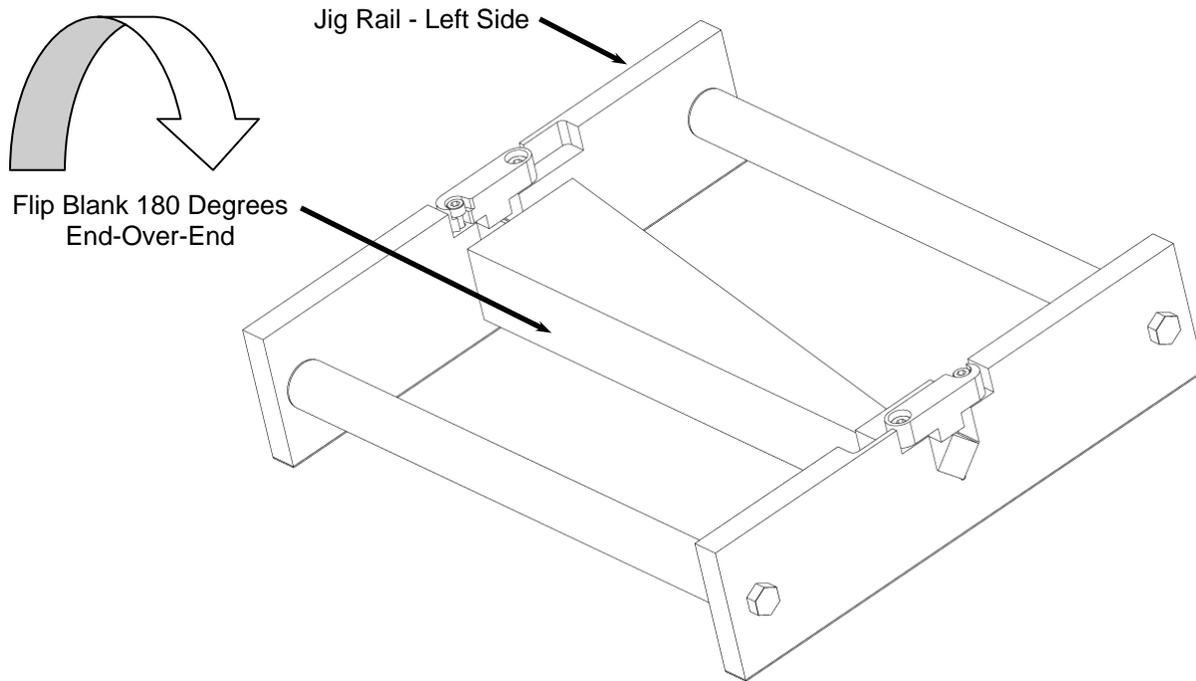

FIGURE 12: VIEW SHOWING THE DRAGSTER BLANK FLIPPED IN JIG
8. **Flip the Dragster Wood Blank.** Once the first side of the project is complete, the machine will prompt you to flip the now carved wood blank. **DO NOT CRANK UP THE HEAD OR MOVE THE JIG IN THE MACHINE. DOING THIS WILL ABORT THE PROJECT.** Open the cover, loosen the clamp bolt on each side rail, and flip the blank end for end as shown below (Figure 12) with the jig still clamped in the machine. Repeat steps 5 and 6, and run the second side of the Dragster project. Once the second side is done, remove the jig and clean the machine.